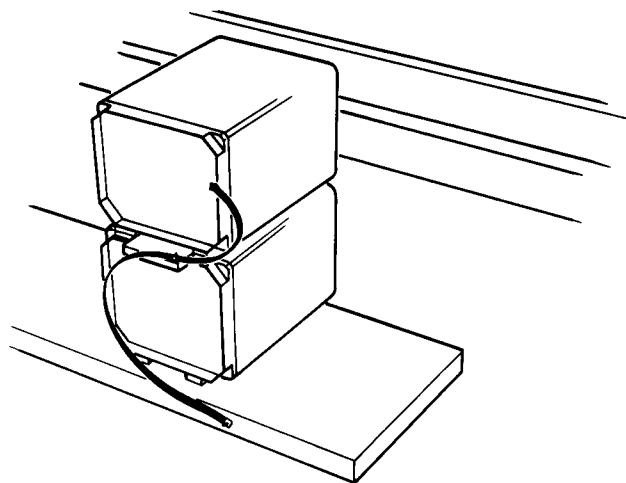

Fig.11 Bonding lead route
2.5 Two leads, electrical (SD3/263996/1 and SD3/263988/1) are provided with the DMU installation kit to bond the DMU to the same point on the radio table as the RT-353. This is shown in fig. 11.
2. Secure the other end to the earth bonding point on the frame, mounting electrical equipment (5995-99-637-9502) as in fig. 11.
4. Secure the other end to the earth bonding point on the frame, mounting, electrical equipment (5995-99-637-9502) as in fig. 11.